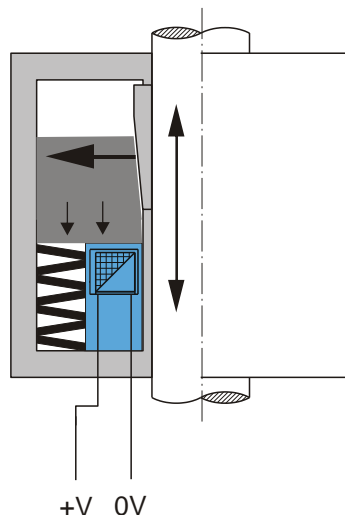

Fig. 1 Moveable piston rod on application of the coil nominal voltage
- ☐ The brake clamping element is pulled against the spring through application of the voltage. The piston rod can be moved (Fig. 1).